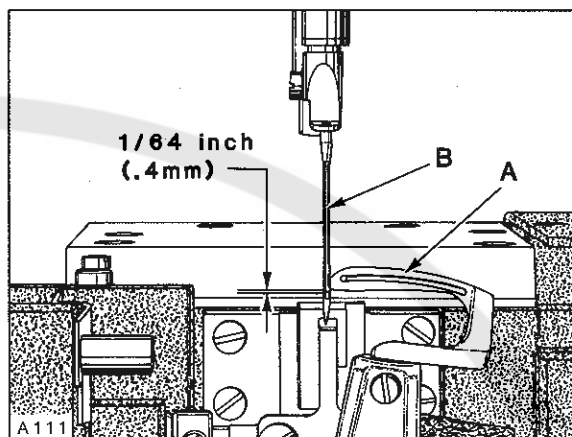
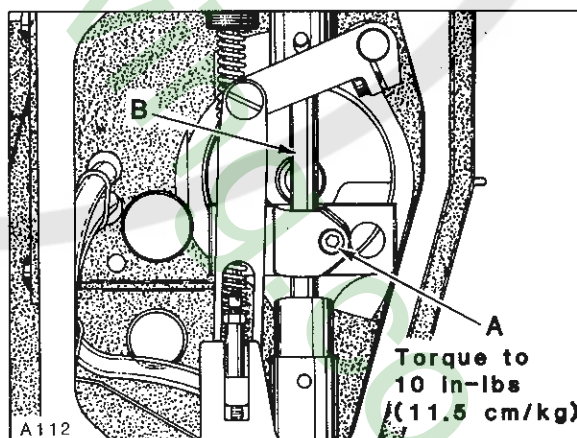

Fig. 8
Fig. 9
Turn handwheel in operating direction until POINT of looper (A, Fig. 8) is even with the LEFT side of the needle (B). TOP of needle eye should be 1/64 inch (.4mm) below the undersurface of looper blade, as shown in Figure 8. Adjustment can be made by loosening screw (A, Fig. 9) and move needle bar (B) up or down as required; TORQUE screw (A) to 10 in-lbs (11.5 cm/kg).